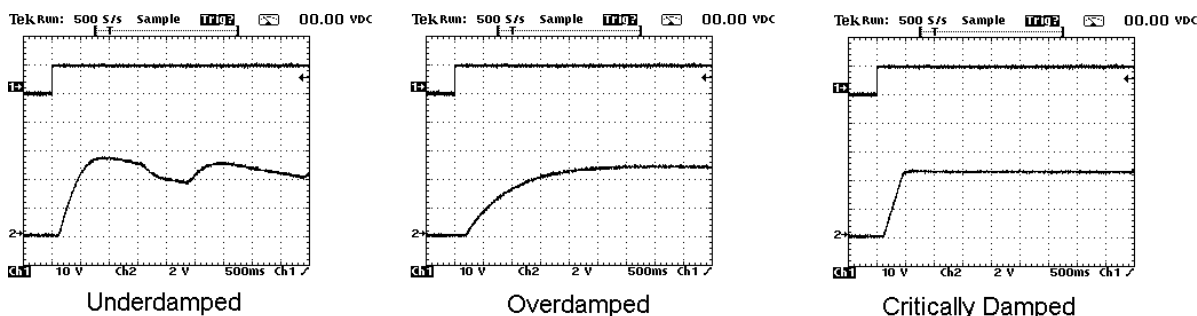

Figure 6
In order to adjust properly, connect an oscilloscope to Analog Output 1 Terminal 21 (Velocity Feedback). Using the HMI, temporarily set the **Ramp Bypass (305)** parameter to True. Run the drive and apply a step change to the external speed reference. Observe the response to the drive. The motor speed should respond quickly with minimum overshoot. Adjust the **Velocity Proportional Gain (201)** and **Velocity Integral Time (202)** parameters to obtain a critically damped waveform as seen in Figure 6. Increasing the proportional gain improves the response but increases the overshoot. Reducing the integral time improves the response but can cause instability if set too low. Once complete, return **Ramp Bypass (305)** to False.